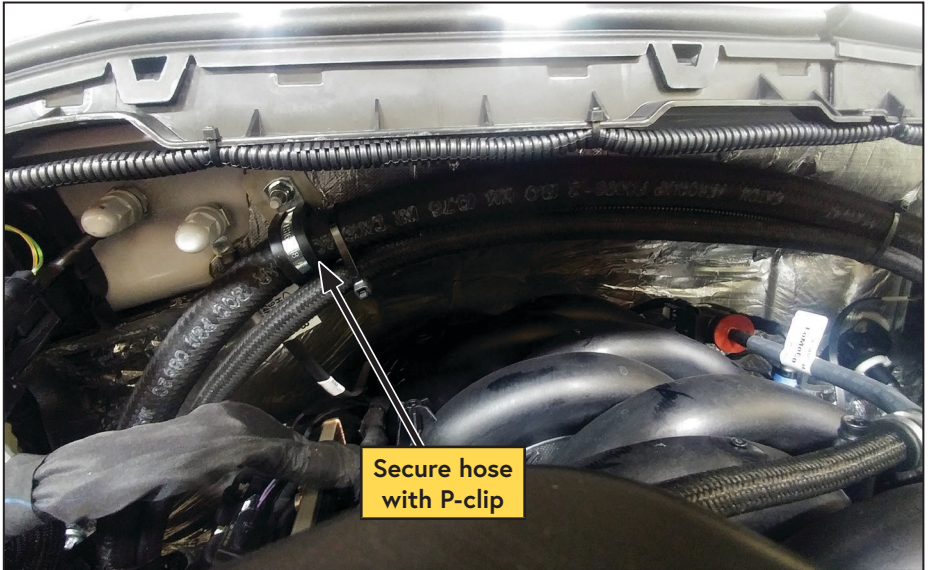

Figure 22 — Route hoses
- Using the supplied P-clip and lock nut, secure the 3/4 in hose to the stud in the firewall (Figure 22).